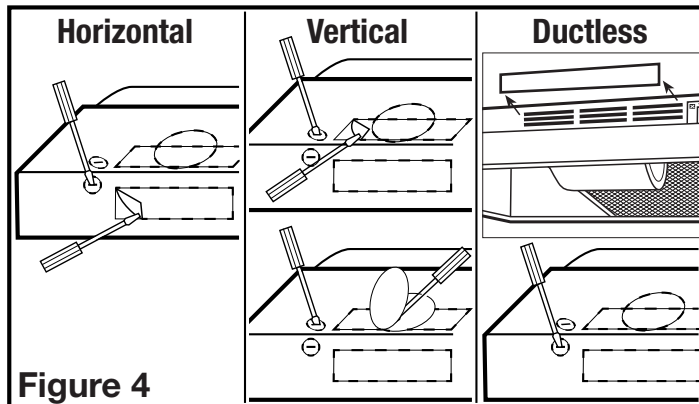

Figure 4
- Horizontal or Vertical** - Remove the square knockout by inserting a screw driver under the edge and break the tabs holding it in place. Peel back with pliers (**Figure 4**).
- Ductless** - Remove the hood's front louver cover, exposing the front air slots. To remove louver slide to one side and lift the trailing edge. Do not use a screwdriver or any other object that could scratch the hood (**Figure 4**).
- 7" Round** - Remove the round knockout located on the top of the hood by inserting a screw driver under the edge and break the tabs holding it in place. Peel back with pliers (**Figure 4**).
- Determine where the electrical service will enter the hood and remove the appropriate electrical knockout by inserting a screw driver into the slot and rocking back and forth until the knockout comes loose (**Figure 4**).